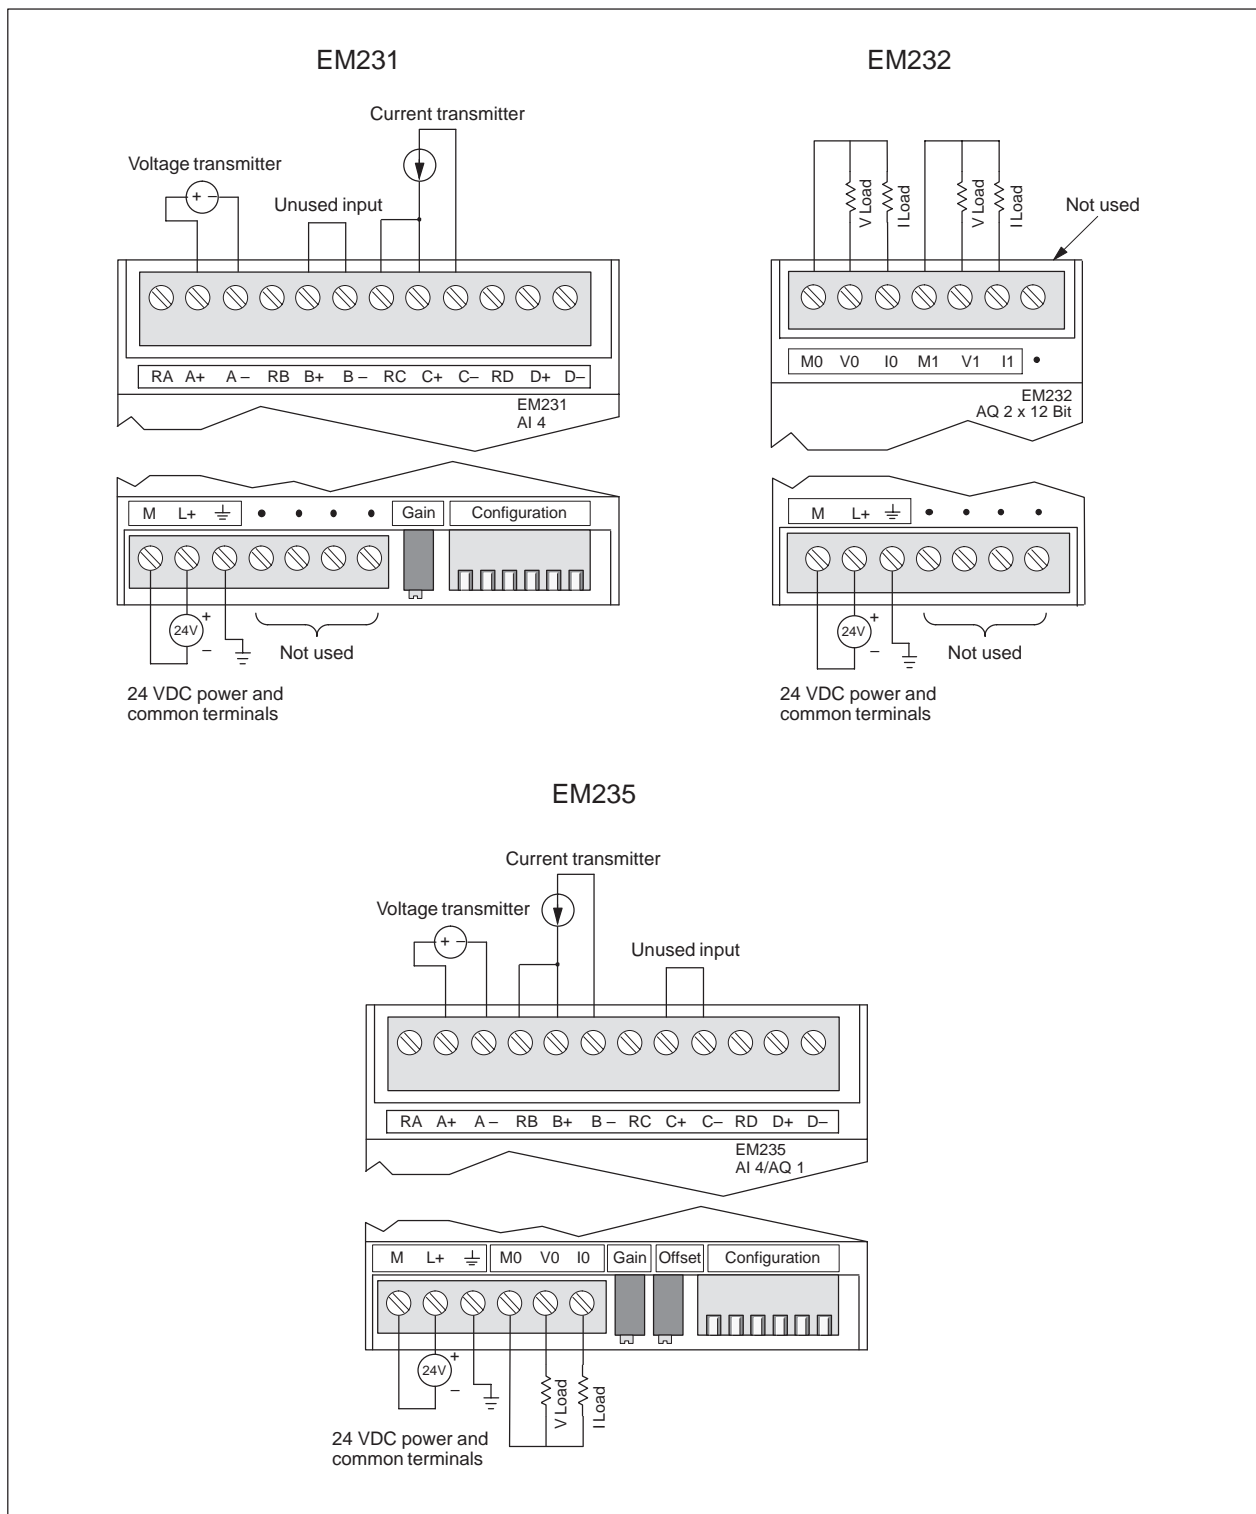

Figure 1 Connector Terminal Identification for Expansion Modules EM231, EM232, and EM235
- Short the inputs for any unused channels, as shown in Figure 1.